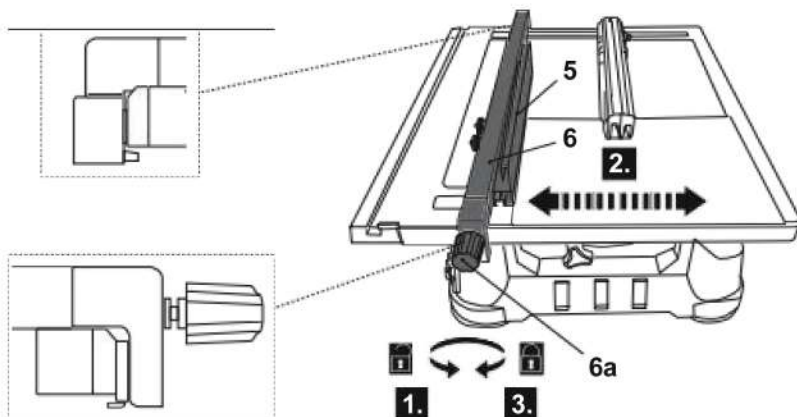

fig. 4
> Loosen the locking knob (6a) (fig. 4, step 1). Attach the parallel fence (6) to the worktop (1). Make sure the parallel guide is properly installed. Align horizontally to the work table and parallel to the saw blade (3). Place the parallel fence in the correct position on the worktop (fig. 4, step 2). Then tighten the locking knob (fig. 4, step 3).